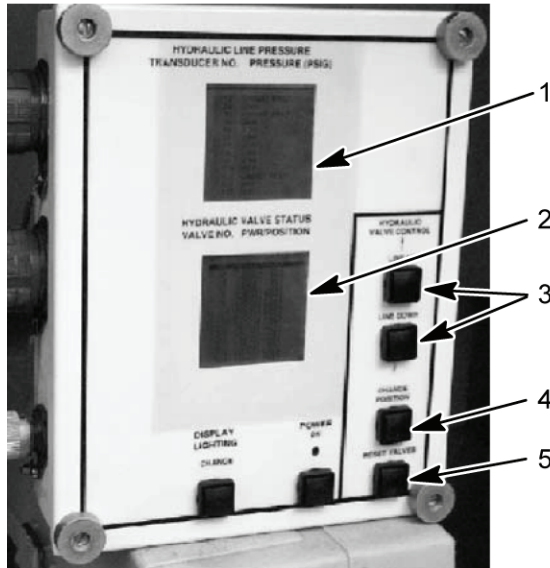

Figure 5. HDC Control Box
- Reset all HDC solenoid valves by selecting the RESET VALVES button (Figure 5, item 5) on the HDC control box.
- Ensure right main hydraulic pressure inhibit valve V21 (Figure 5, item 1) is fully opened.
- Disable ejector by manually closing the ejector inhibit ball valve V23 (Figure 6, item 2) on the DCV bank. Using LINE UP or LINE DOWN button (Figure 5, item 3), select V1 on the HDC display (Figure 5, item 2). Close V1 on the HDC display (Figure 5, item 2) by selecting the CHANGE POSITION button (Figure 5, item 4) on the HDC control box.